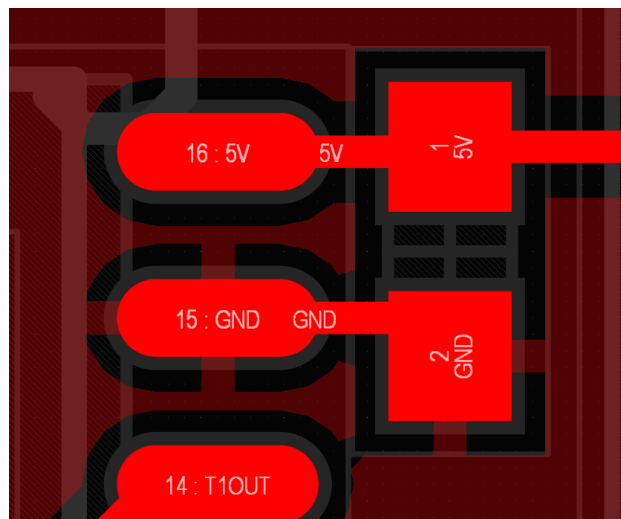

Figure 17: View of Final Node Connection
21. While we could move some components around or use vias to remedy this issue, the simplest solution for this tutorial is to just place an extra trace connecting the two nodes as shown in Figure 17.